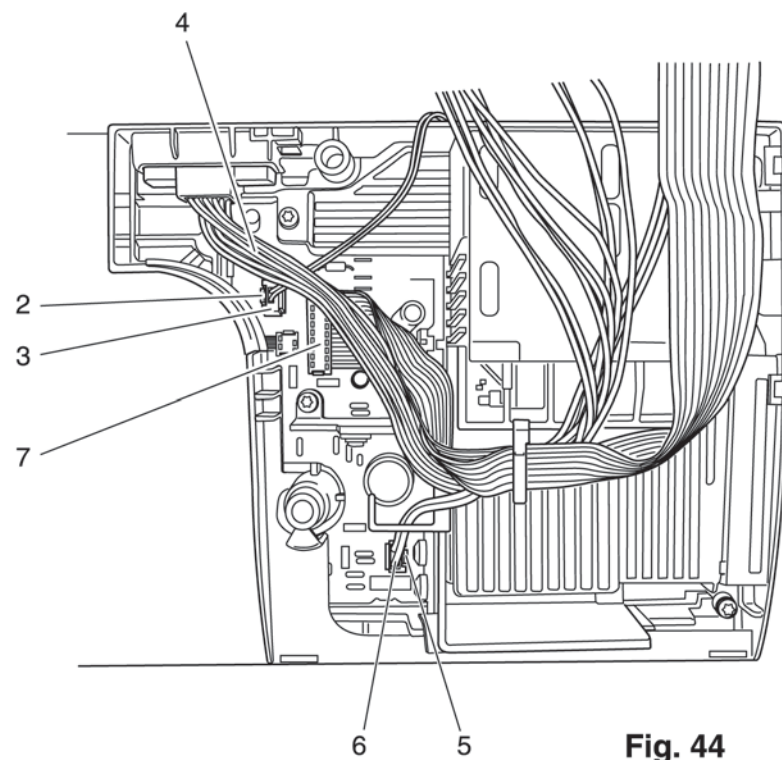

Fig. 44
- Raise latch 2 only 1 to 2 mm (fig. 44).
- Insert the two-connection plug 3 of the thread cutter in the pin socket (fig. 44).